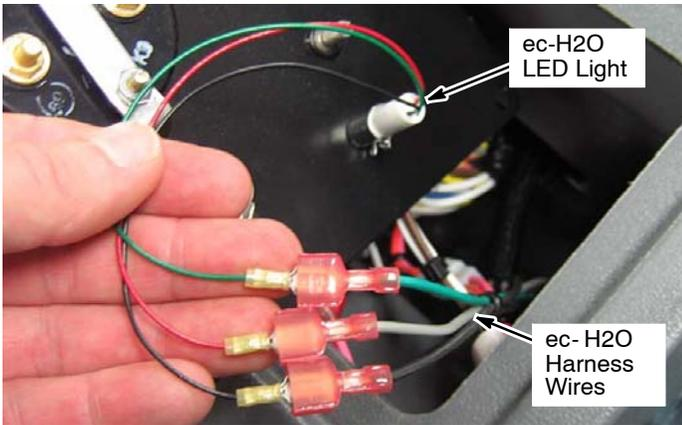

Fig. 24
2. Connect the routed *ec-H2O* harness wires to the LED light (GRAY to RED, GRN to GRN and BLK to BLK) (Figure 24).